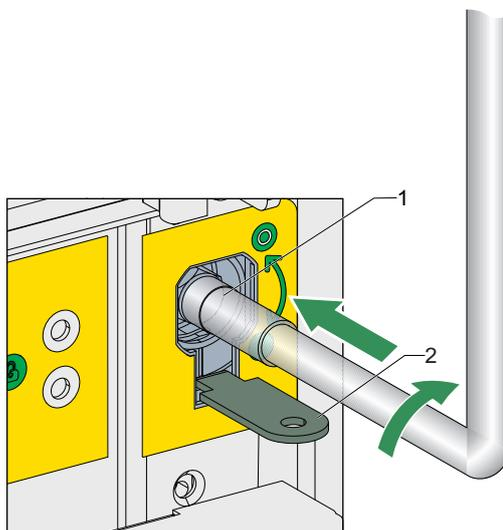

Figure 45
1. Press the slider (2) downwards until access for the E/S operation is available. Refer to the Figure 45.
2. Insert E/S handle (1) aligned with axis point.
3. Turn the E/S handle (1) clockwise by 180°.
5. Remove the E/S handle (1) and place it back into the transport trolley.